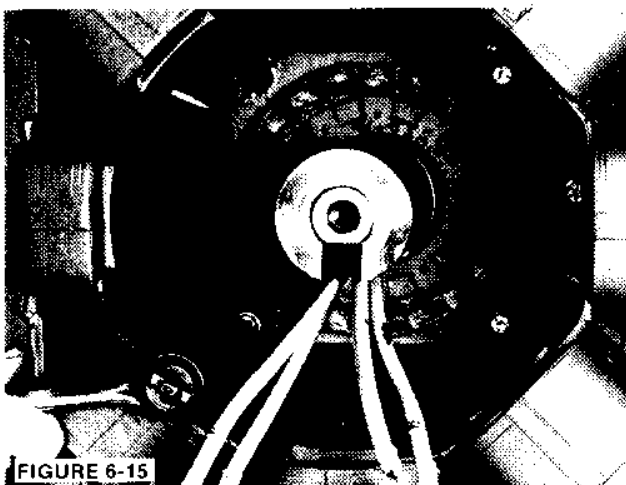

FIGURE 6-15
4. Remove the four mounting capscrews. (See Figure 6-15.)